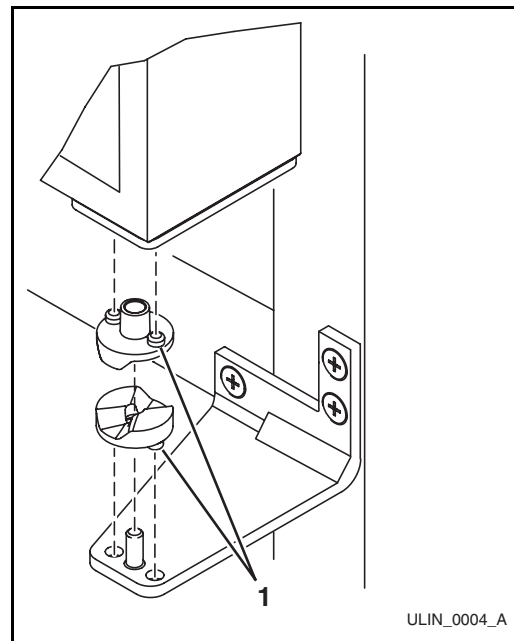

Figure 17
5. After adjustment is complete, remove the door closers from the bottom hinge, clean thoroughly and apply petroleum jelly to the mating surfaces of the closers. Be sure that bosses on closers (**Figure 17, 1**) align with holes in the door and bottom cabinet hinge plates. Mount door and install top hinge pivot pin.